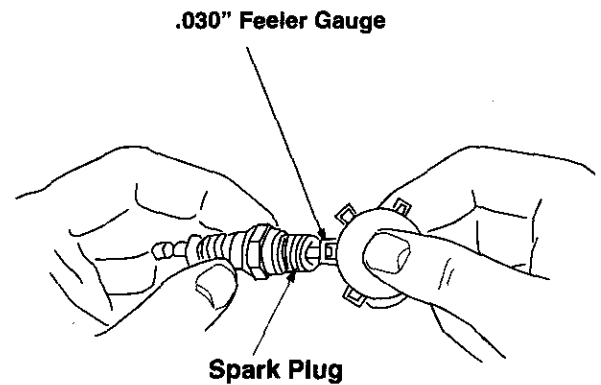

Figure 15
Clean spark plug and reset the gap to .030 inches at least once a season or every 100 hours of operation. See Figure 15. Refer to engine parts list for correct spark plug type.
- Check electrode gap with wire feeler gauge and reset gap to .030 inches. See Figure 15.